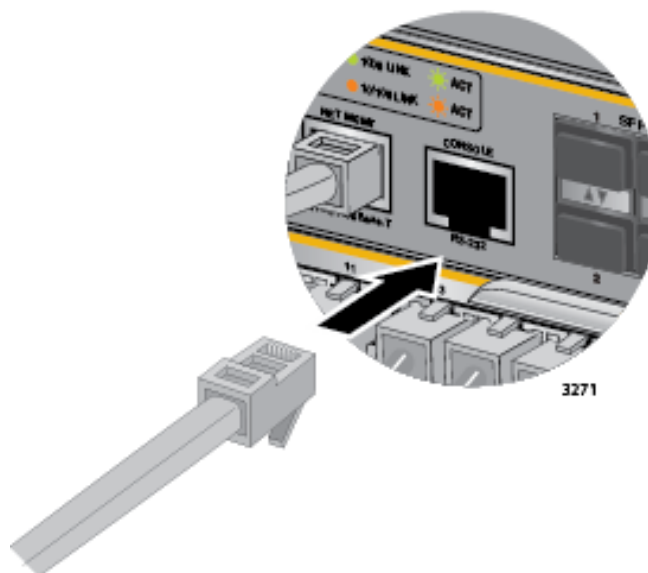

Figure 142. Connecting the Management Cable to the Console RS-232 Port
1. Connect the RJ-45 end of the management card included with the AT-SBx81CFC960 Controller Fabric Card to the Console RS-232 port on the front panel of the AT-SBx81CFC960 Control Card, as shown in Figure 142. If the chassis has two controller cards, you may use the Console RS-232 port on either card to establish a local management session with the chassis.